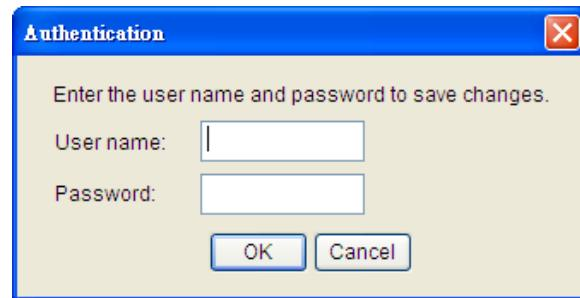

Figure 3. The authentication window.
7. You will need to enter a User Name and Password for the Remote Management Card (Figure 3) in the authentication window, as shown in figure 3. \*Default user name: cyber; Default password: cyber